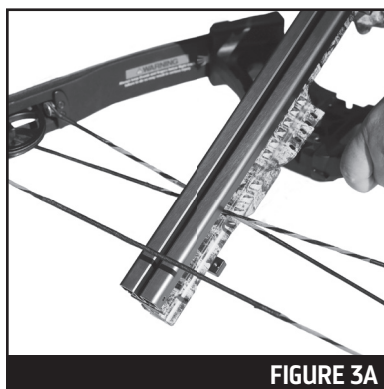

FIGURE 3A
- Two (2) String Dampeners
- Two (2) Socket Head Cap Screws (not in all models)
- Two (2) or Four (4) Riser Bolts (depending on model)
- Two (2) Cover Plate Bolts (not in all models)
- One (1) Riser Cover Plate (not in all models)
2. Place cables under the front edge of the arrow/flight track into the cable slot; this should cause the string to rest on top of the arrow/flight track as shown in Figure 3A. The "string" connects from one cam to the opposite cam. The "cables" are connected to both the limbs and cams. The string should be in contact with the arrow/flight track.